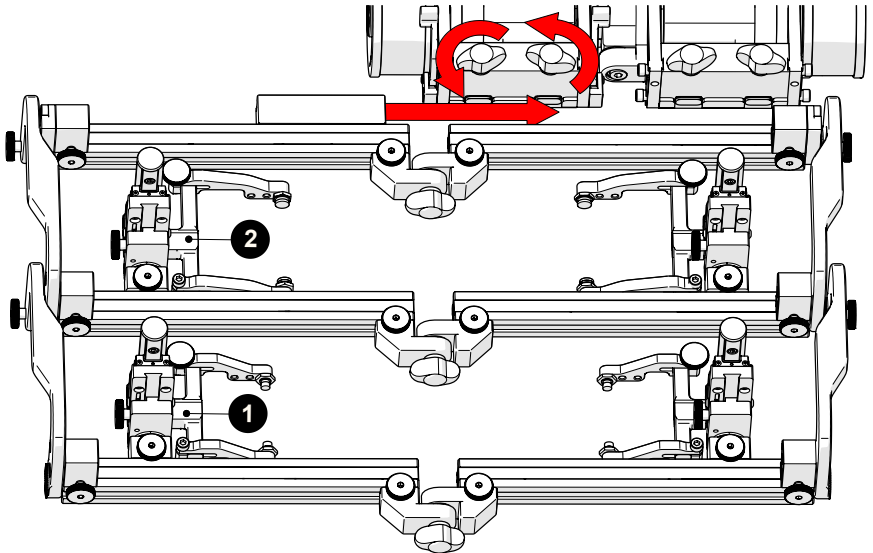

Fig. 245 - Connect frame to right drive module
2. Affix the probe holders (*with attached wedges*) to the probe holder frame. Place the secondary probe holders at the front of the **1** frame while placing the primary probe holders at the rear of the **2** frame system (Fig. 245).